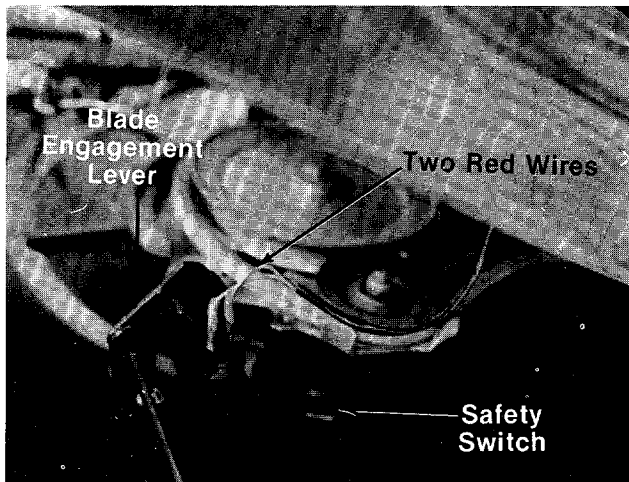

FIGURE 36.
4. Unplug the two red wires on the safety switch located on the left hand side of deck at the blade engagement lever. See figure 36.